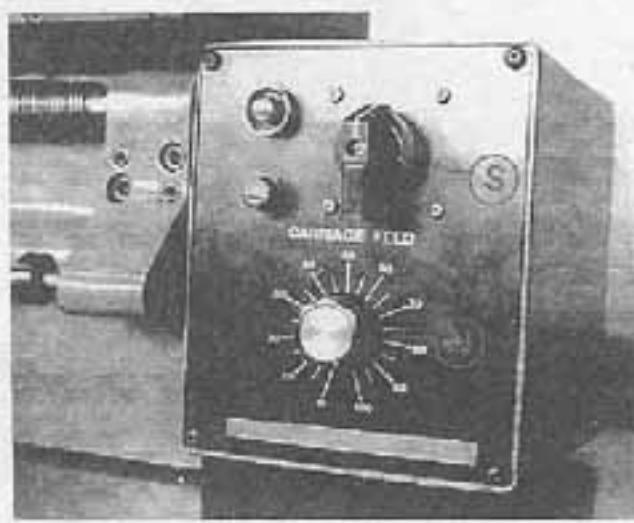

Figure 23 - Power Feed Unit
Start the power feed by turning Cam Switch 'S' (figure 23).
2. The Cam Switch "S" (figure 23) controls the direction of the power feed.
3. The carriage Feed Control "N" (figure 23) controls the rate of feed. When Cam Switch "S" is placed in "RIGHT" position, the carriage will feed toward the right, the cross slide will feed away from the operator.